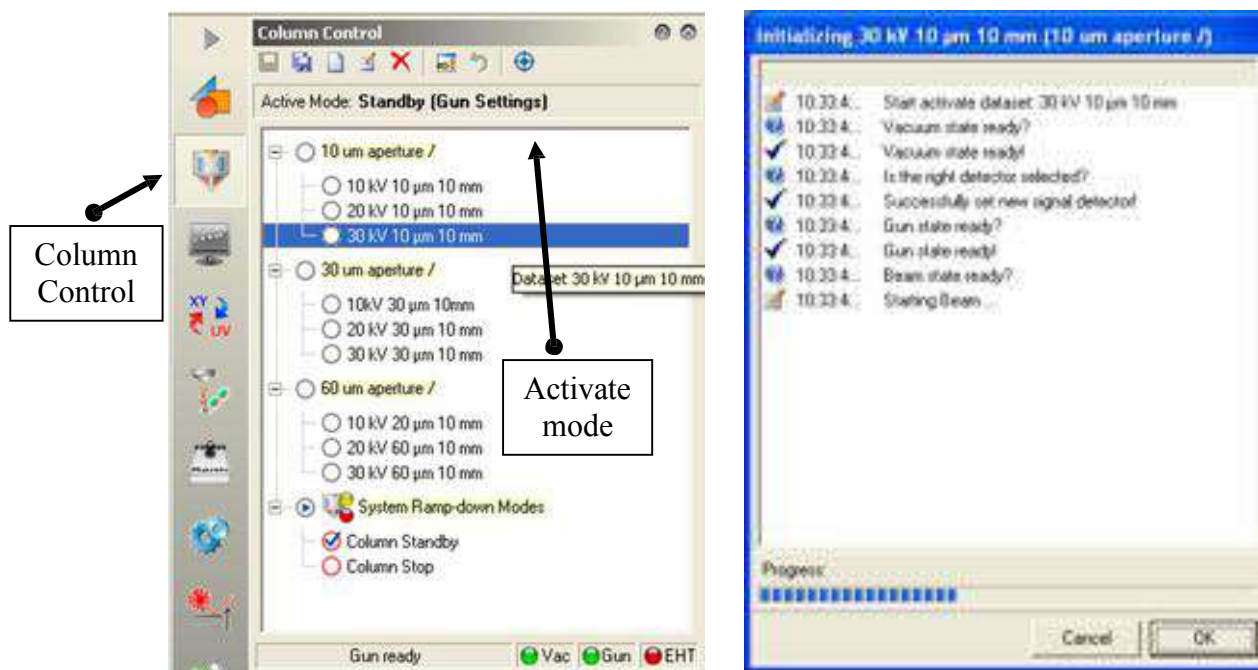

Figure 13 Turning on the column voltage (a) using Column Control, and (b) column initialization details
11. In order to turn on the column voltage (EHT), select the **Column Control** tab on the right panel, and activate the desired setting as shown in Fig. 13(a). A window will pop-up detailing the column initialization details as shown in Fig. 13(b). This process will take a few minutes; however, it should not take longer than 5 minutes for any voltage setting.